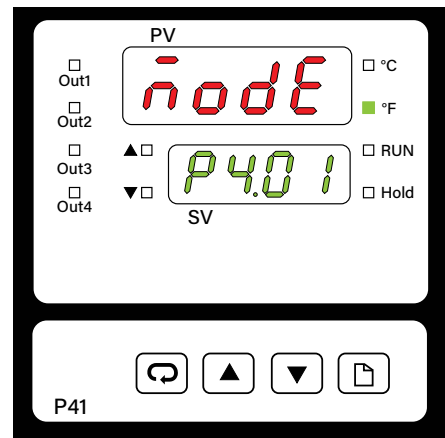

Figure 18
2. Press the  SCROLL key until the lower (green) display shows the profile and segment numbers in green (example: P4.01, is Profile 4, Segment 1). **(See Figure 18).**
3. Press the  UP or  DOWN keys to select the profile and segment numbers you want to run (example P4.01 / P4.01). **(See Figure 18).**